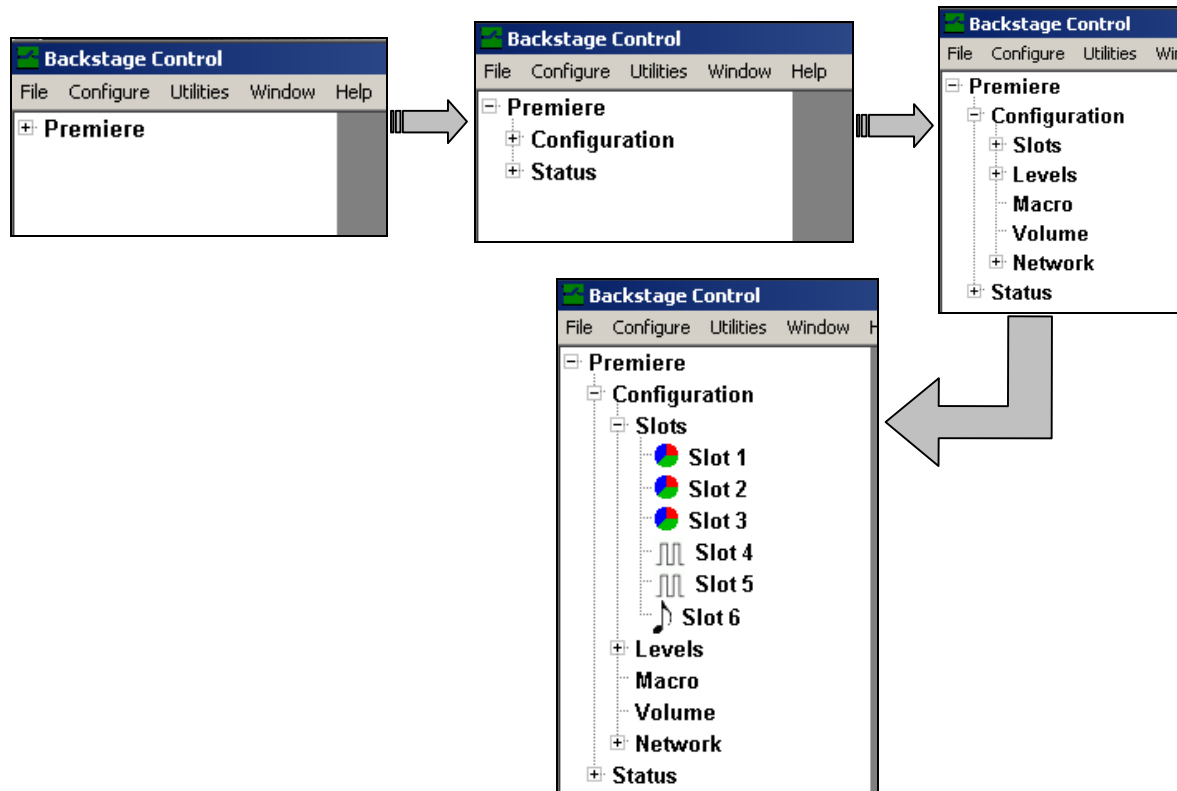

FIGURE 73: Expanding The GUI Tree Directories
1. In the tree window, access the **Slots** directory by expanding the **Premiere**, **Configuration**, and **Slots** root directories by clicking on the x-box (☒) adjacent to each directory (see Figure 73).